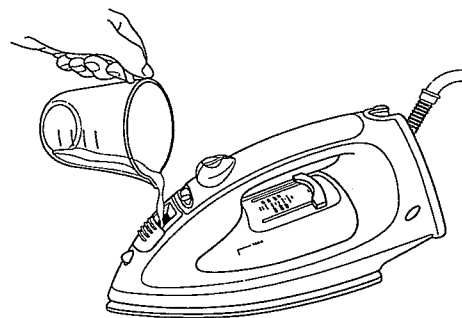

Figure 8
4. Fill water through the water tank Opening (see Figure 8).